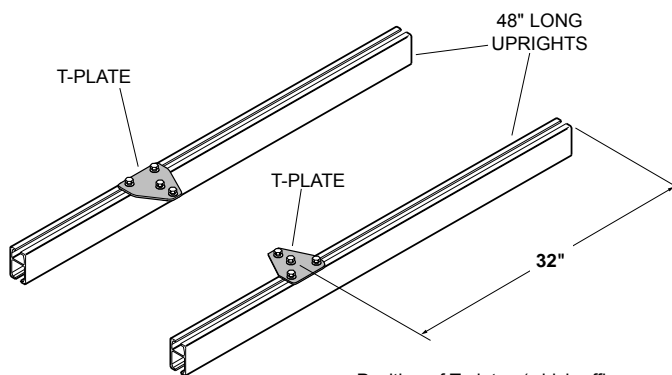

Figure 3.
3. Locate two 48" long uprights and two T-plates. Affix T-plates to uprights as shown in Fig. 3. Wrench tighten to secure.